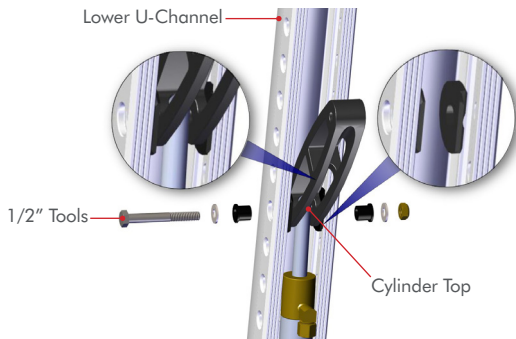

Figure 3
STEP 2: Remove the **Cylinder Top** from the **Lower U-Channel** using a 1/2" socket & wrench. **FIG 3 or 4**